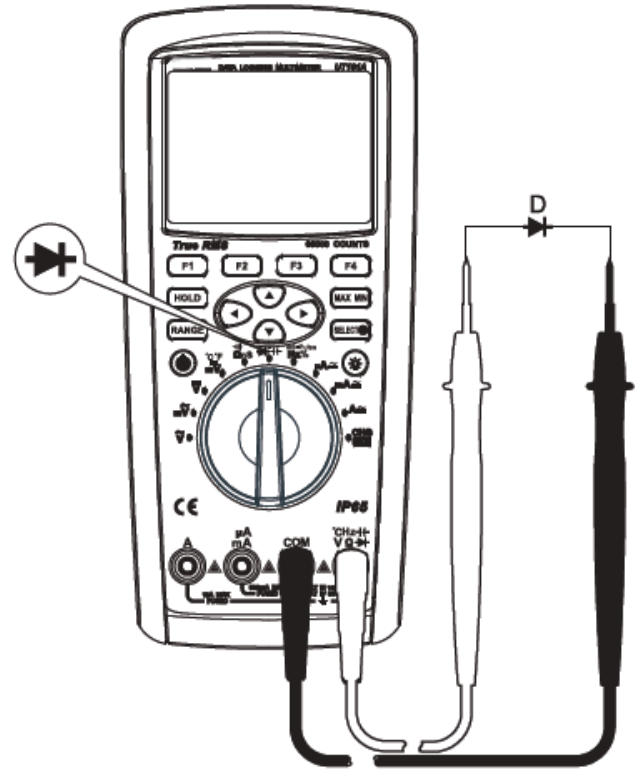

Figure 10
2) Set the rotary switch to the  position. The meter will default to Diode measurement. Connect the test leads to both ends of the diode as shown in Figure 10. Directly read the approximate forward PN junction voltage of the measured diode on the display.